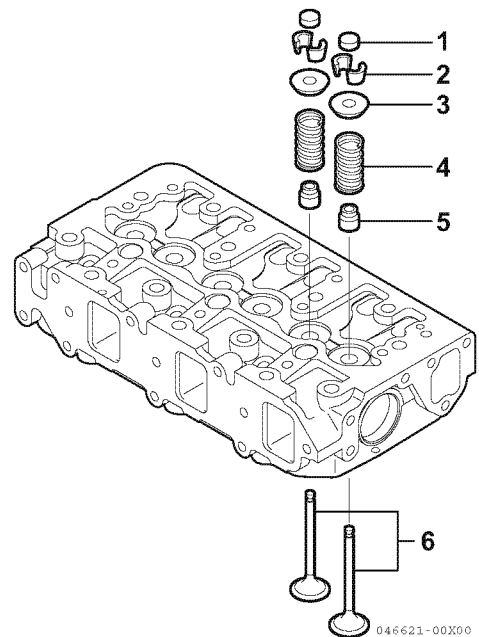

Figure 6-10
2. Remove the valve cap (1, **Figure 6-10**) and keep with the valve it was installed on.
4. Remove the valve keepers (2, **Figure 6-10**).
6. Remove the spring retainer (3, **Figure 6-10**) and valve spring (4, **Figure 6-10**).
8. Turn the cylinder head so the exhaust port side faces down. Remove the intake and exhaust valves (6, **Figure 6-10**) from the cylinder head.
9. Remove the valve stem seals (5, **Figure 6-10**).